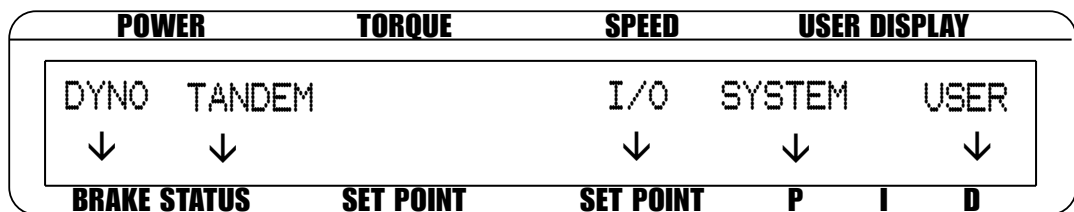

Fig.3-22 Tandem Setup Menu
7. Press [POWER UNITS] to select tandem. See Figure 3-22 Tandem Configuration Menu.
14. Select TANDEM. The display will appear as shown in Figure 3-22 Tandem Configuration Menu.